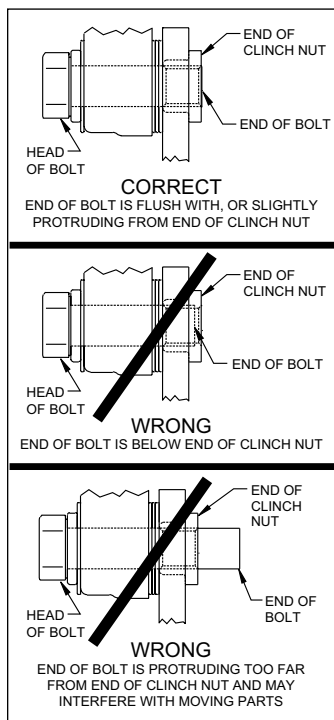

Figure 4. Clinch Nut Engagement Diagram
**CAUTION:** All mounting bolts must fully engage clinch nuts. Be sure to check that all bolts are either flush or protruding through flanged side of clinch nut after shimming, Figure 4.